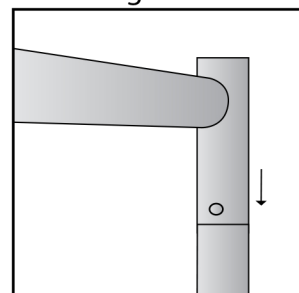

Figure 6
7. Slide horizontal hanging bar on to top of the vertical support bars and lock into place. (Figure 6)